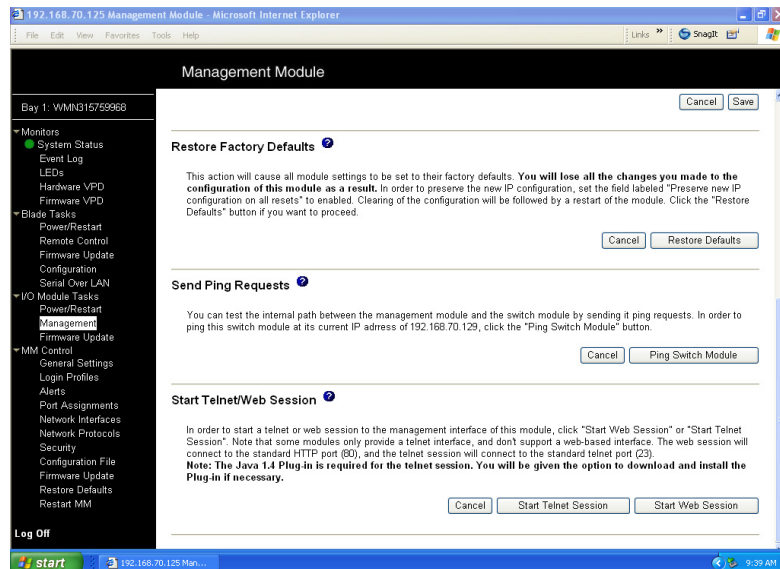

Figure 15. Switch Management window - advanced
- Scroll down and click **Advanced Switch Management**. A window similar to the one in Figure 15 opens.